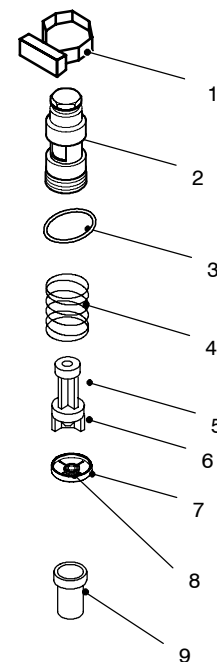

Fig. 68
When the flow rate through the d.h.w. circuit reaches about 2,5 litres/min', the float 6 (Fig. 68) is drawn towards the right.
### 14.2 Nomenclature and location of parts (Fig. 68)
- 3 Unscrew the body 2 (Fig. 68) and extract the flow switch group.
- 4 To remove the filter from the flow switch group separate the filter 9 from the threaded ring (Fig. 68) by levering it.
- 3 Unscrew the threaded ring 7 (Fig. 68) and remove it from the body 2.